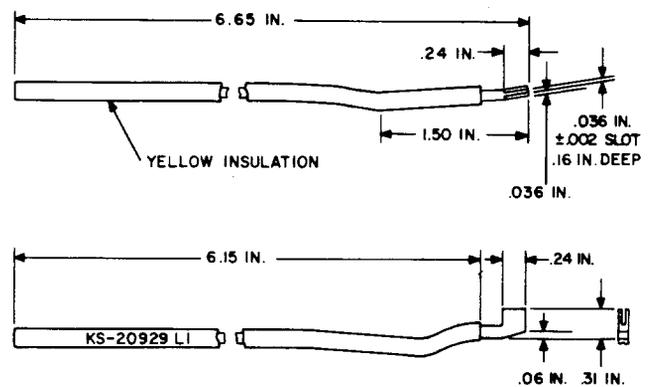

Fig. 13—KS-20929, L1, Adjuster Tool
2.15 KS-20929, L1: The KS-20929, L1, adjuster tool (Fig. 13) is used for adjusting heavy springs and the armature backstop on the 221 FAE relays. The adjuster replaces the 766A tool.